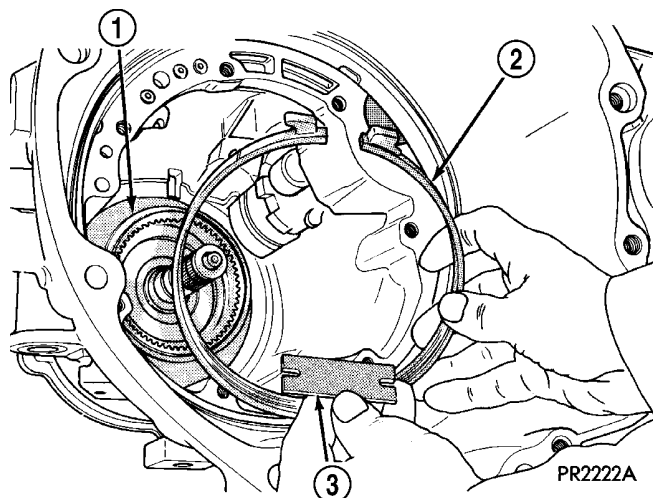

Fig. 43 Low/Reverse Band and Strut
- 2 - OVERRUNNING CLUTCH ROLLERS (8)
- 3 - OVERRUNNING CLUTCH SPRINGS (8)
(42) Remove low/reverse band (Fig. 43).